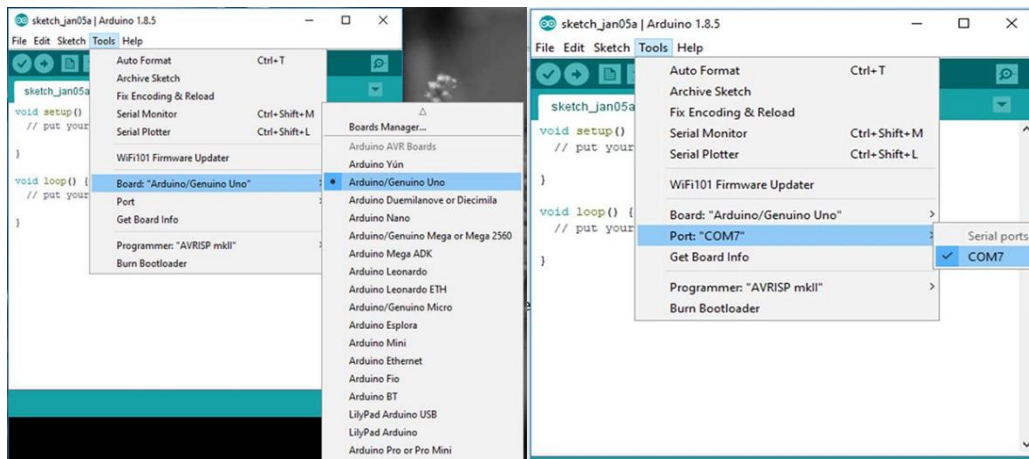

Figure 2. Interfacing of an Arduino board with PC.
- d. Click on *tools* option as shown in Figure 2.